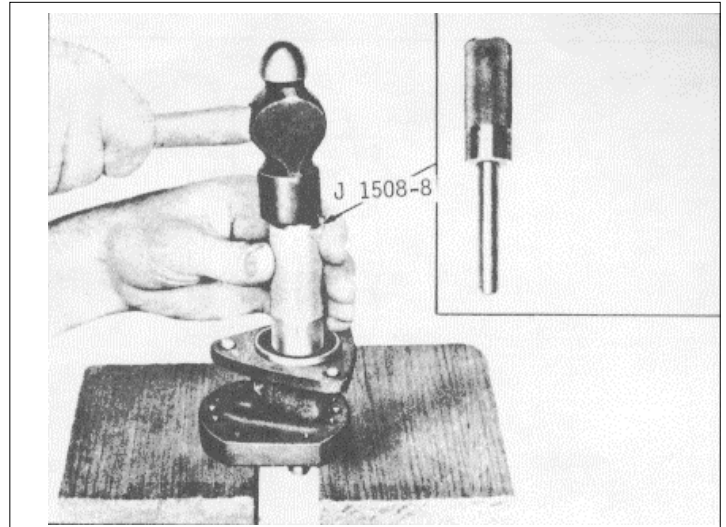

Fig. 8
- (1) Lubricate the lips of the oil seals with a light coat of vegetable shortening, then install the oil seals in the pump body as follows:
- (b) With the pump body supported on wood blocks (Fig. 8), insert the pilot of the installer handle in the pump body so the seal starts straight into the pump flange. Then drive the seal in until it bottoms.